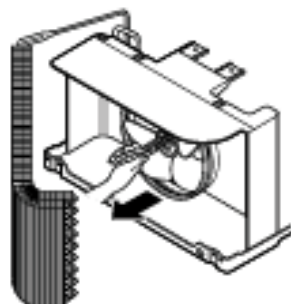

Figure 8
6. Remove the fan. (See Fig. 8)